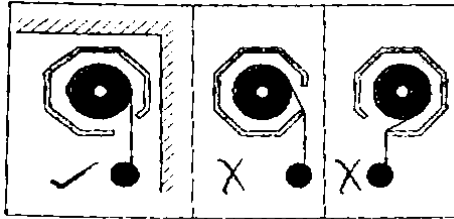

Fig. 3
1. Always pull down the screen in a 90-degree vertical motion and do not allow the screen to touch the screen case when the screen comes down. (Fig 3)